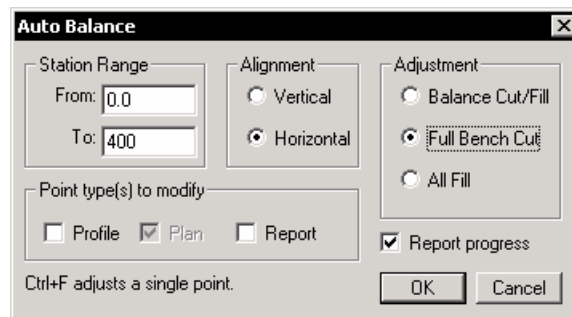

Figure 5.3: Edit | Auto Balance Dialog Box Set Up to Horizontally Align to Full Bench
The exercise above could have been accomplished almost in one step with the Edit | Auto Balance function. Figure 5.3 shows how you would set up the Auto Balance dialog box to perform this.
5. Edit | Undo some of your alignment above so that you can see there is excessive fill once more. Use Edit | Auto Balance to re-align to full bench (as shown in the Figure 5.3- note *Station Range*). You may want to type <F1> once the dialog box is open to see online help.